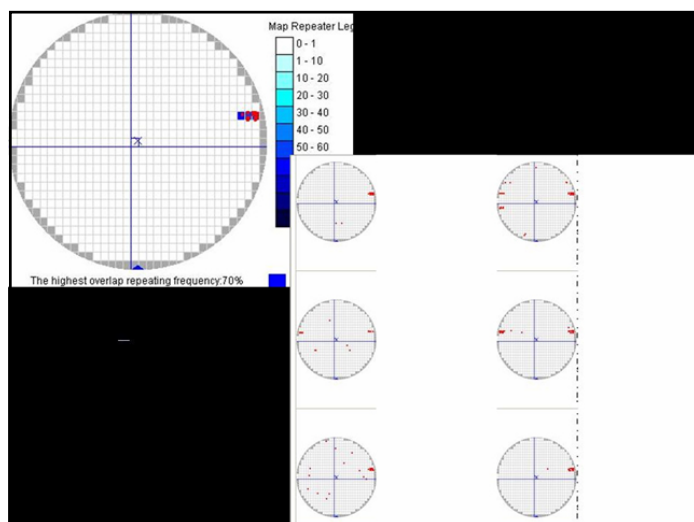

Figure 9 Scratch by process tool
- Scratch by process tool – Figure 9